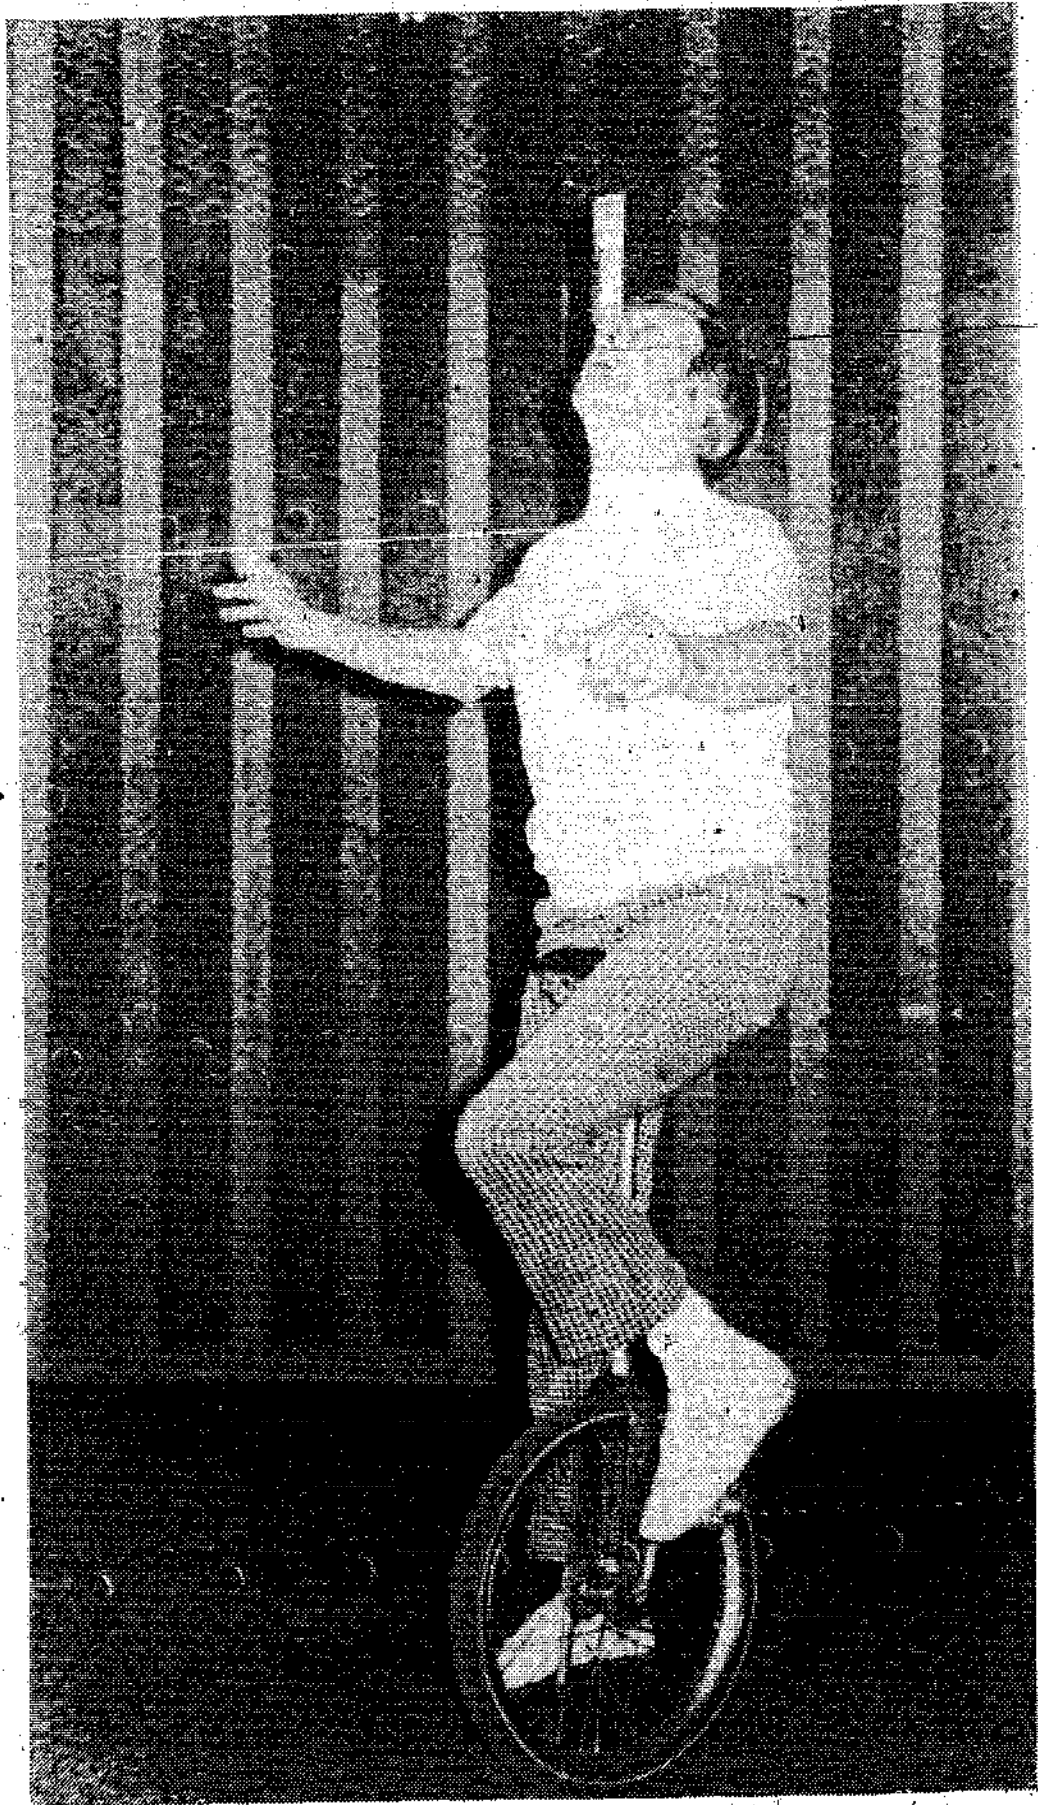

Fig. 15-35. Jim Dandy performing "The Minimum."
**"The Minimum"** and **"The Maximum."** Jim Dandy, a professional performer, is shown at age 70 performing what he calls *The Minimum* (Fig. 15-35) and *The Maximum* (Fig. 15-36). No gimmicks are used in performing these unbelievable feats.